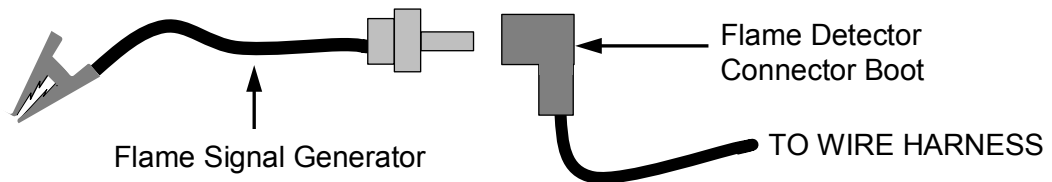

Figure 6-4: Connecting the Flame Signal Generator
- b) Remove the black connector boot from the Flame Detector (see Figure 6-4).
- b) Push the **BACK** button three (3) times to return to the upper level menu.
- c) When the Controller gets into the ignition phase, the Control Panel will show **IGNITION TRIAL**. At that point attach the alligator clip (see Figure 6-4) to any bare metal surface or ground. The C-More display should now show **FLAME PROVEN** and begin to ramp up to 100% fire rate. Note that no gas or flame is present in the boiler at this time.